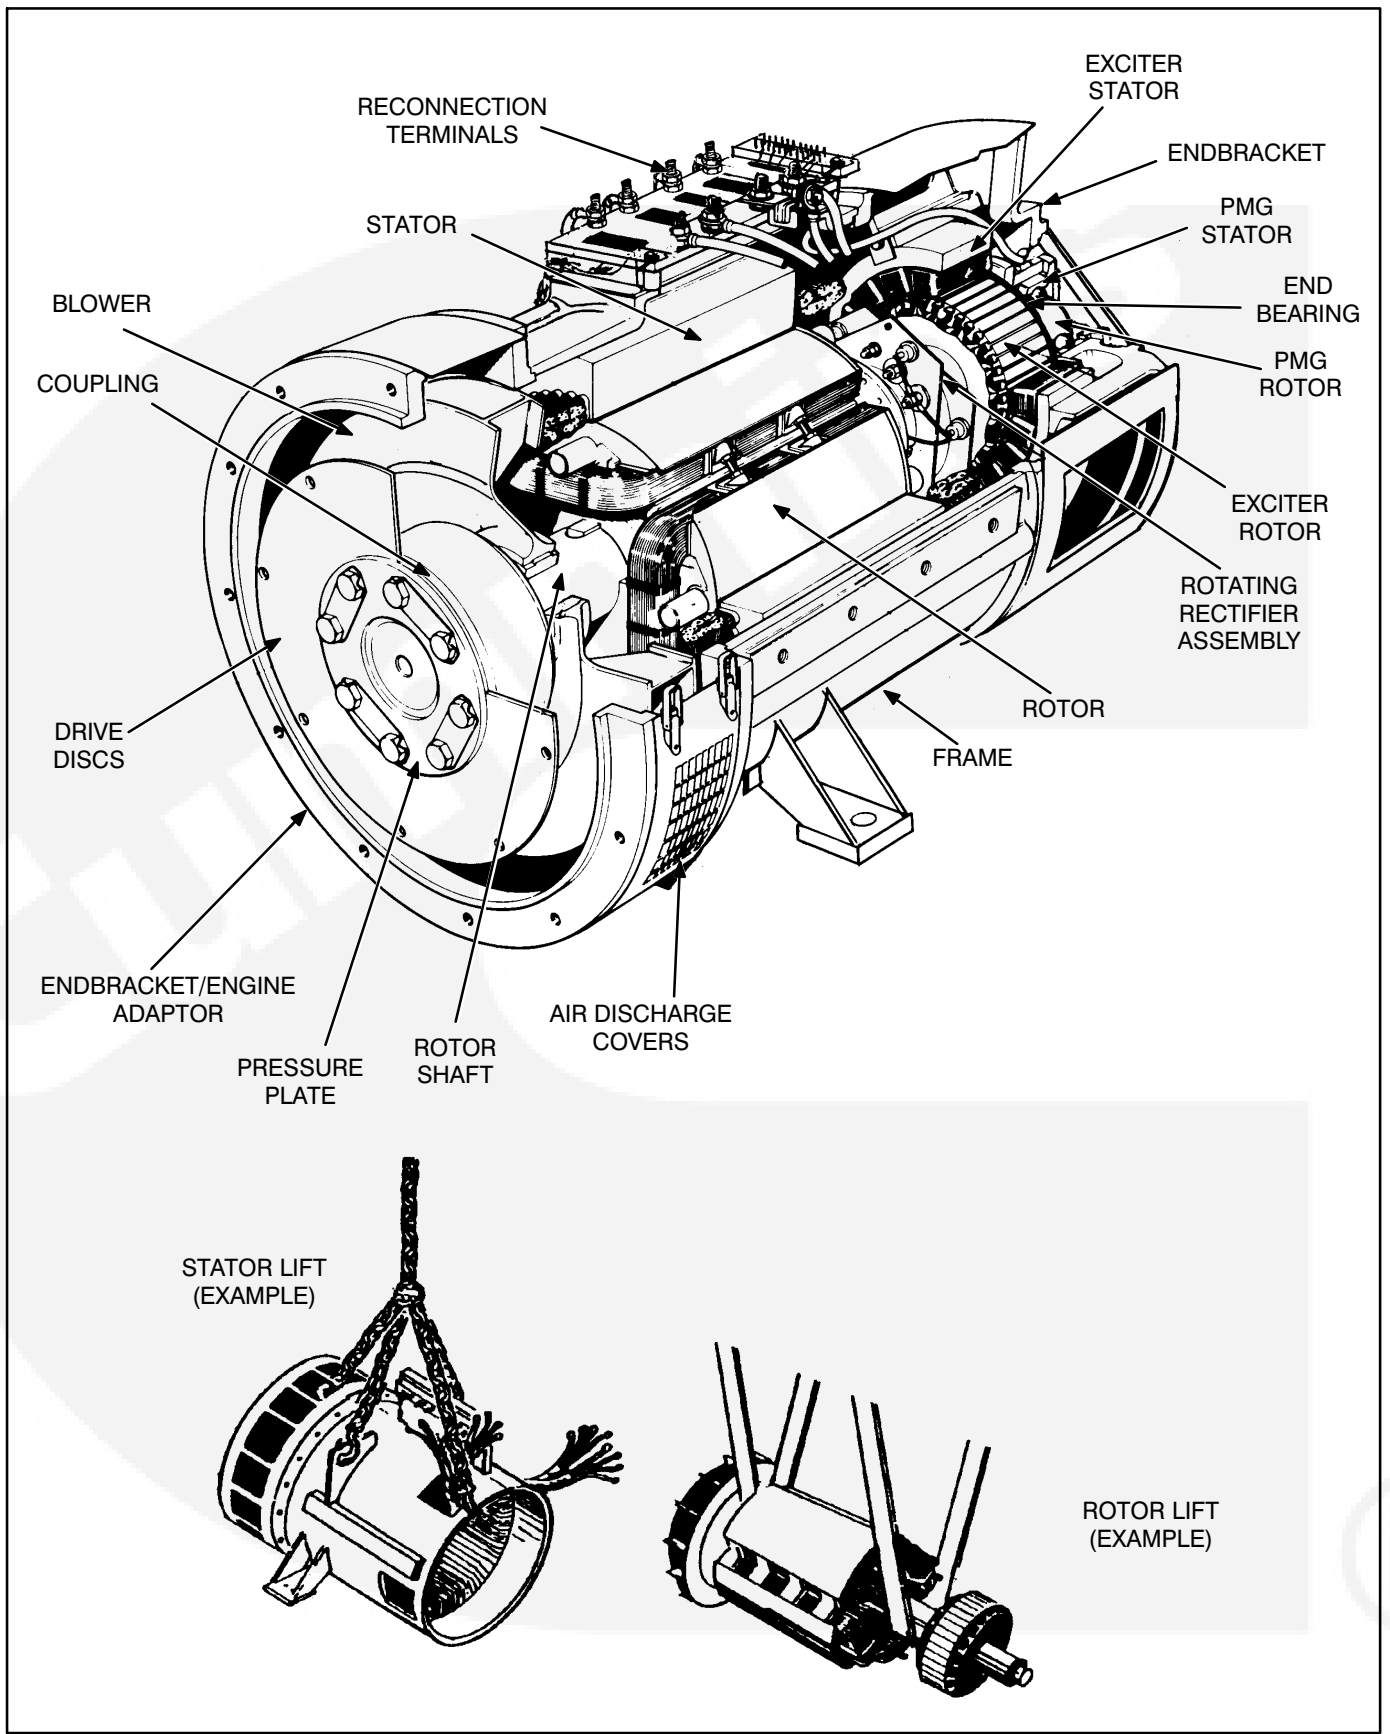

FIGURE 6-14. TYPICAL GENERATOR ASSEMBLY
24. Reposition or add hoist and sling support for the main rotor, and remove the forklift. See Figure 6-14, Rotor Lift detail.